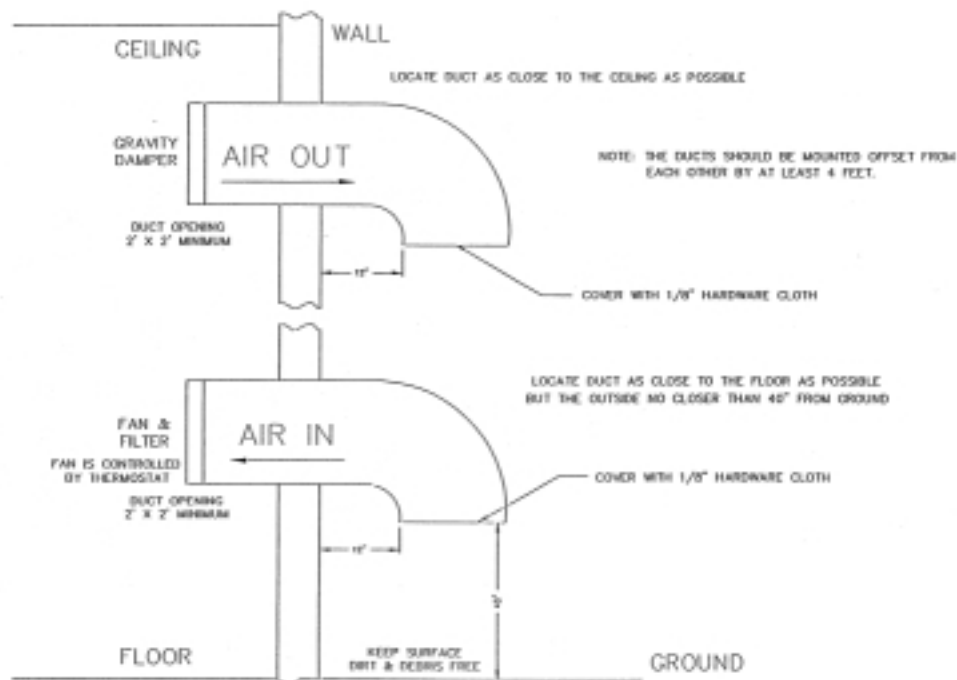

Figure 3-1. 1 kW Minimum Ventilation Configuration
The information presented in this section is intended to serve only as a general guide and may need to be modified for unusually severe conditions. A combination of air conditioning and ventilation should not be difficult to design (see Figure 3-1). System interlocking and thermostat settings should be reviewed with ADC. As with any equipment installation, it is always good practice to consult the manufacturer when questions arise. ADC can be contacted at (724) 941-1500.